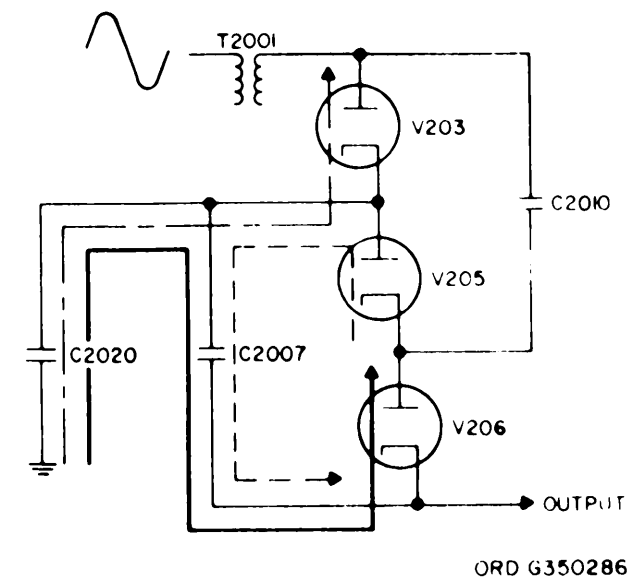

Figure 3-1.1. Voltage tripler.
(a) Looking at figure 3-1.1, assume that the positive half of the sine wave from transformer T2001 is applied to the circuit. Tube V203 is forward-biased and therefore conducts. Capacitor C2020 charges to approximately the peak voltage (E) via V203, as shown by the long-and-short dashed line in the figure.